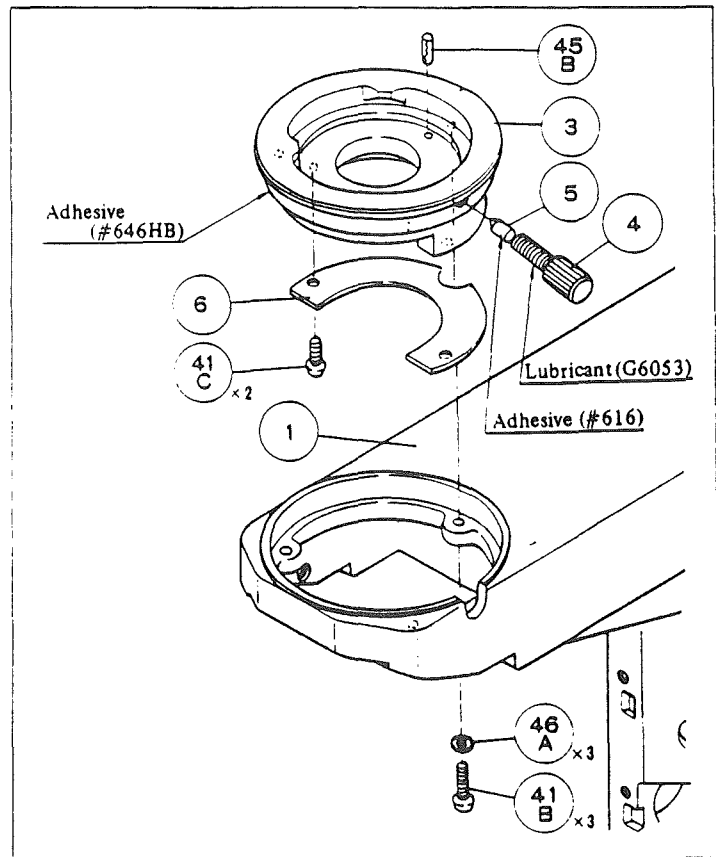

Fig. 31
- 6) Forcibly draw out roller race (male) toward the base. (Fig. 31).
- 7) Releasing screws (43A) x3, remove roller race (female) (8).
- 9) Release screws (41B) x3, and by striking tube receptacle (3) with a wooden hammer, take off the receptacle (3) from main body. (Fig. 31).